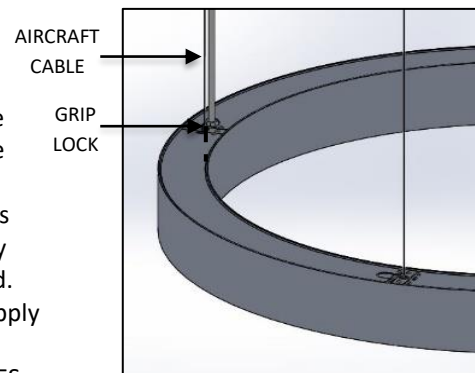

FIG. 16 – FIXTURE INSTALLATION
14. Raise the fixture with multiple people and feed all the AIRCRAFT CABLE into the GRIPLOCKS by pressing the plunger of the GRIPLOCK and insert the AIRCRAFT CABLE into the body of the GRIPLOCK and adjust fixture drop to desired height as shown in FIG. 16.